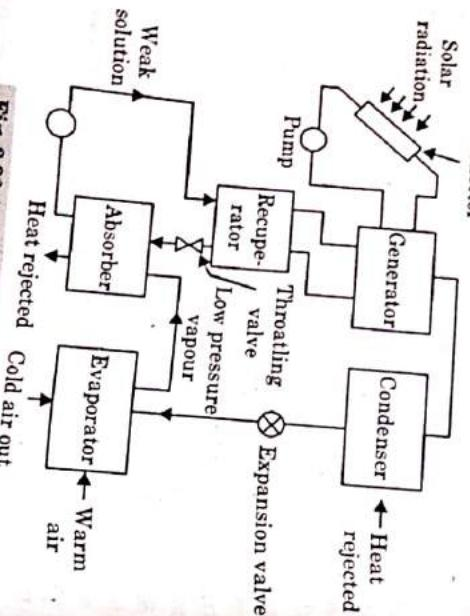

Fig. 2.32.1. Absorption cooling system.
5. The main components of this system are shown in Fig. 2.32.1.